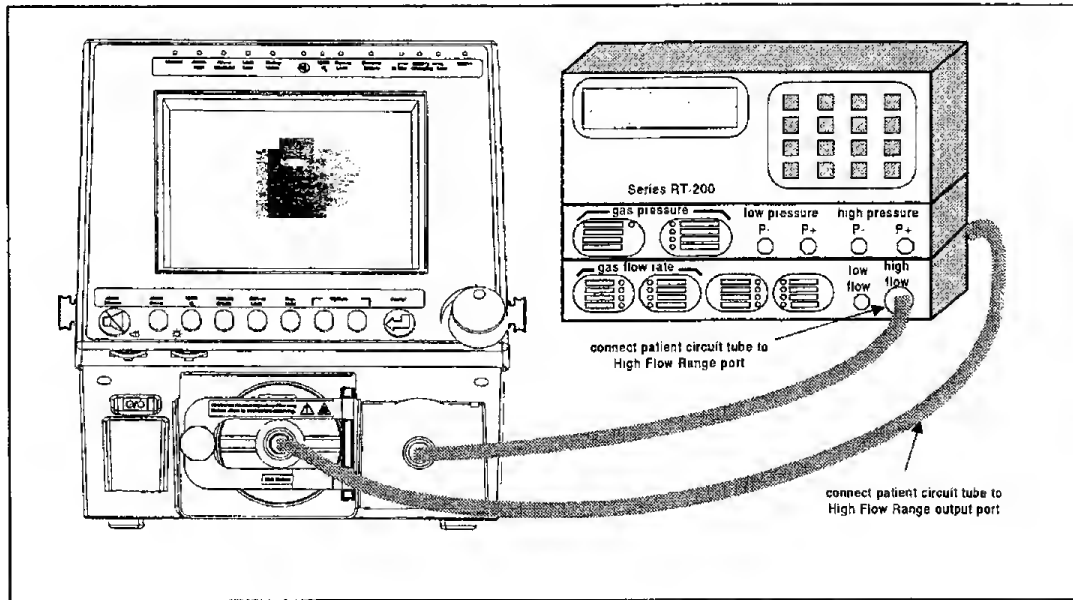

Figure 6-1: Flow Accuracy Test Configuration
8. Connect the RT-200 to the ventilator per Figure 6-1.
5. Connect the RT-200 to the ventilator per Figure 6-1.